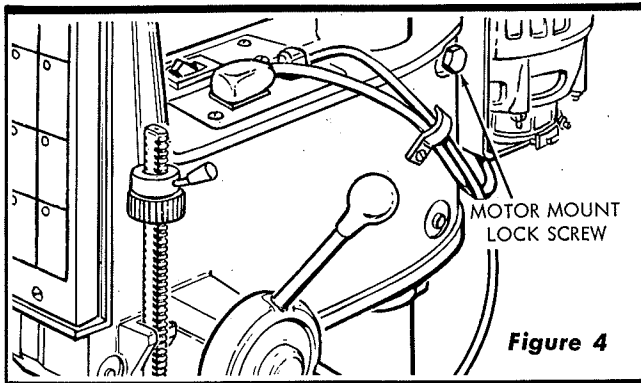

Figure 4
9. Place the V-belt around pulleys and take up belt slack by pivoting the motor mount away from the frame. While maintaining proper belt tension, position motor mount assembly so the belt straddles the column equally. Tighten the motor lock screw (See figure 4).